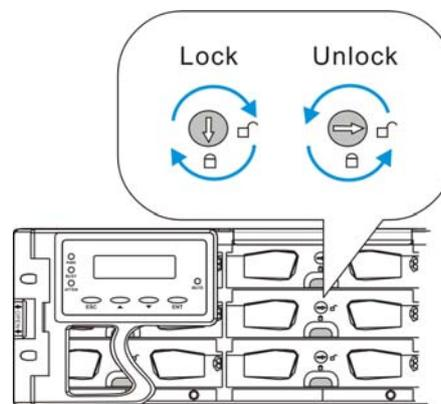

Figure 5-18: Drive Tray Key-lock Rotation
**Step 2. Make sure the rotary bezel lock is turned to the unlocked position,** (See *Figure 5-18*) i.e., the groove on its face is in a horizontal orientation. Use a flathead screwdriver to turn the rotary lock to the unlocked orientation.